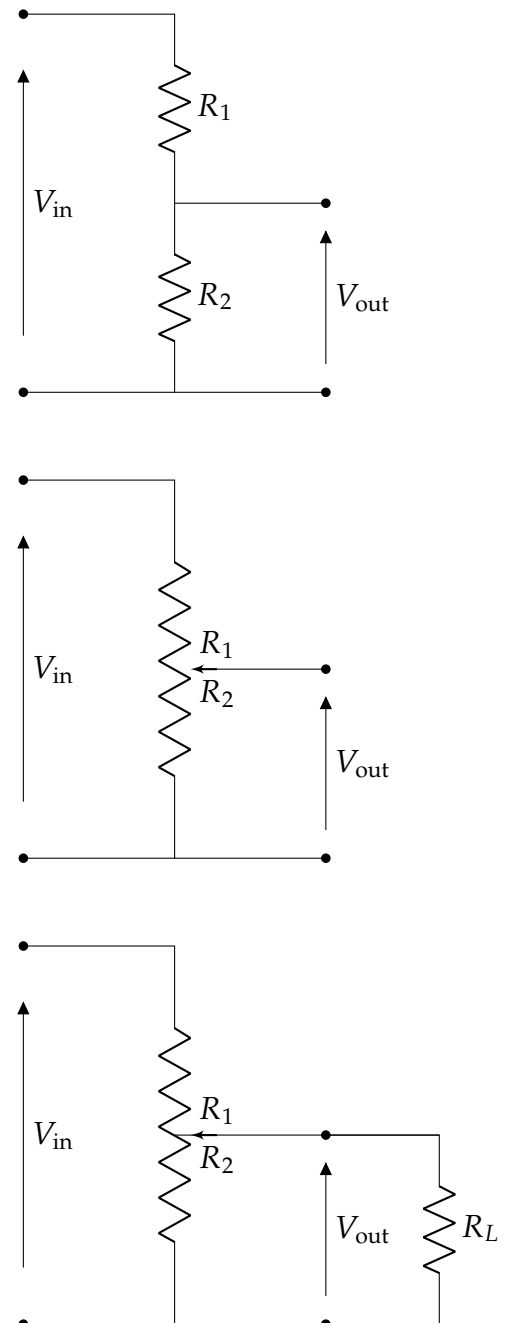
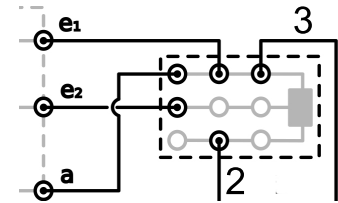

Figure 3.3: Voltage dividers. (Top) With fixed resistors. (Middle) With variable resistance (potentiometer). (Bottom) With variable resistance and a load R_L .
Figure 3.8: Circuit diagram for connecting the voltage divider.
The so-called voltage divider is among the most common electrical connections. You must use it in the experiment. In its simplest form, the voltage divider looks like the top circuit in Figure 3.3.
The voltage divider can be made variable by replacing R_1 and R_2 with a potentiometer, a resistor with variable resistance, as shown in the middle circuit in Figure 3.3. Together with a fixed voltage source, this provides an opportunity to create a cheap variable voltage source.
TIP: What happens to V_{out} when you start drawing power from the output? See the bottom circuit in Figure 3.3. The resulting resistance across the parallel connection of R_2 and R_L is denoted $R_2 || R_L$ and is equal to $(R_2 R_L) / (R_2 + R_L)$.
In the setup so far, you have put both deflection plates at the same voltage, namely the anode voltage U_a . To obtain deflection, one plate is placed on a somewhat lower voltage. This is done by adding a voltage divider to the anode voltage; the principle of voltage division is shown in Figure 3.3. Here you have to make changes to the connection. The anode voltage (3) should now be connected with a junction box according to the diagram in Figure 3.8 shows changes you must make from the connection in Figure 3.6 where the deflection potential was zero. The connection between e_1 and e_2 is removed.
Connect the deflection potential according to Figure 3.8.